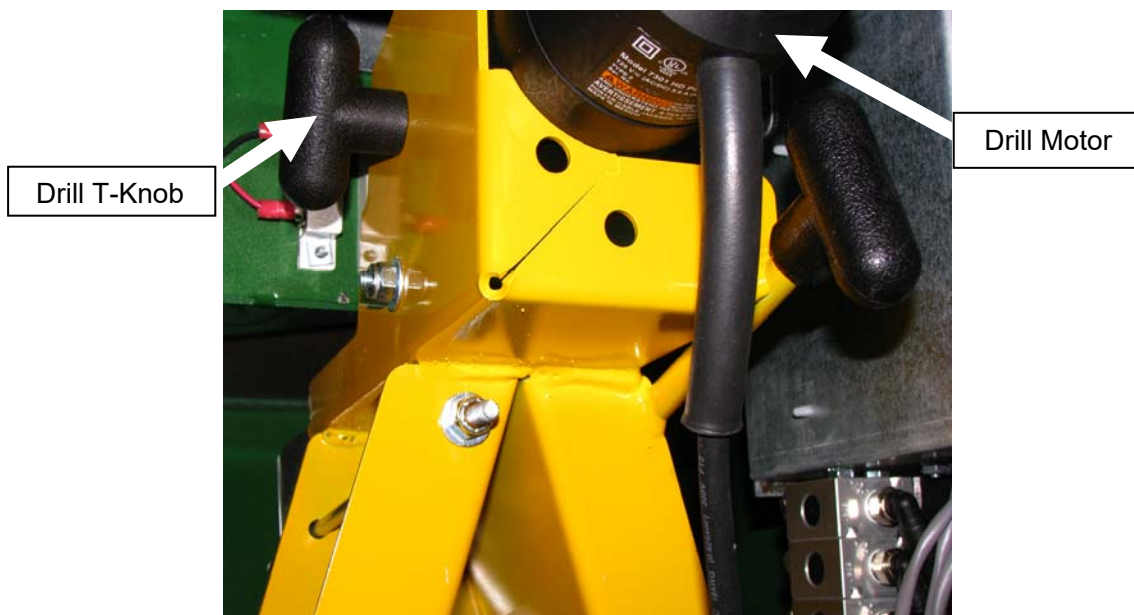

Fig 14
2. The Drill Motor is mounted on top of the yellow Motor Carriage. **See Fig 14.**